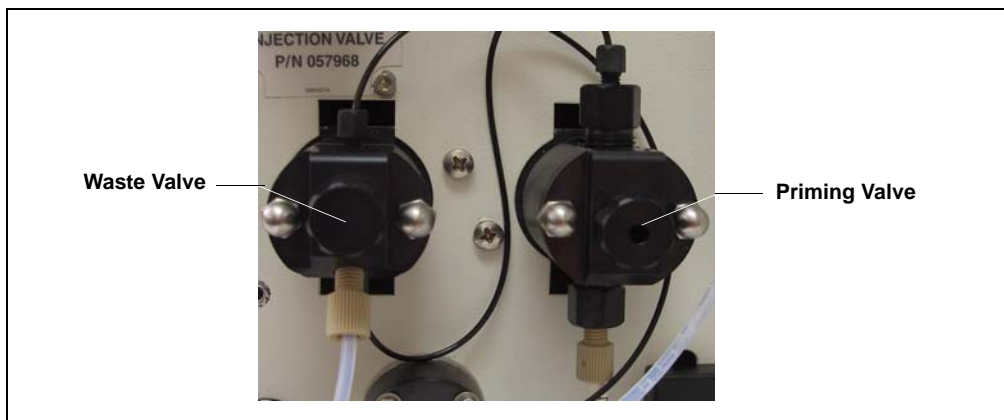

Figure 4-2. Waste and Priming Valves
- **Pump waste or priming valve open (see Figure 4-2)**